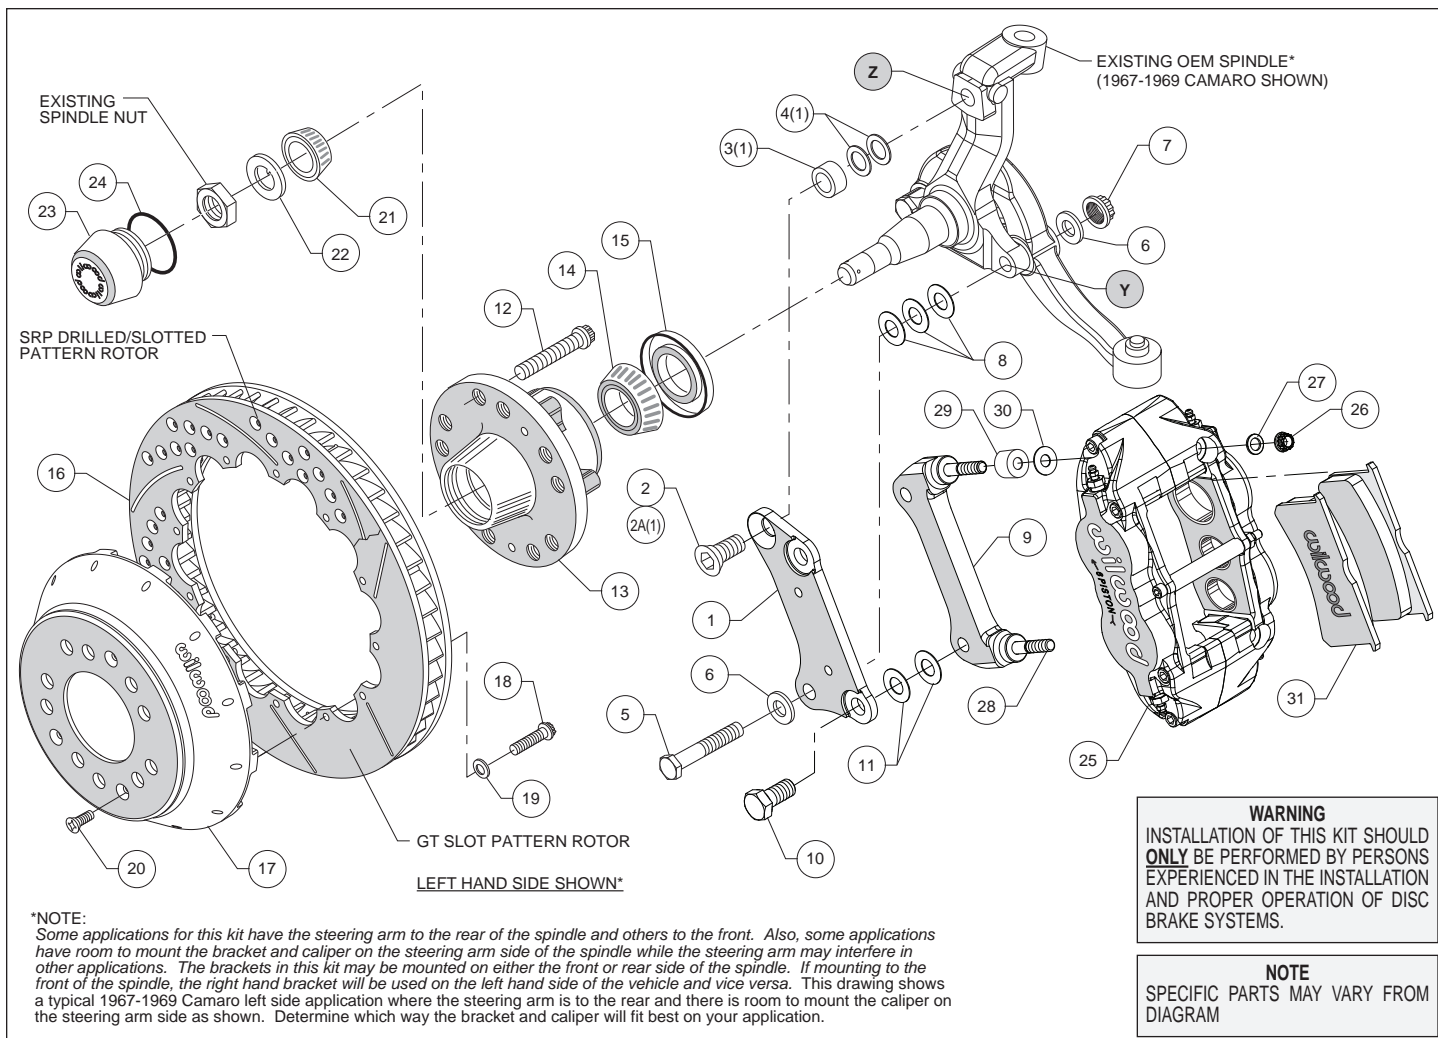
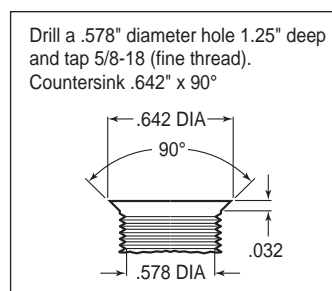
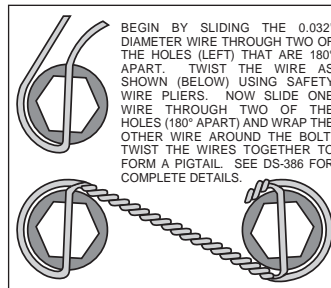

Figure 1. Typical Installation Configuration
Figure 3. Drill and Tap Detail
Figure 4. Safety Wire Diagram
Assembly Instructions (numbers in parenthesis refer to the parts list on the preceding page, and Figure 1):
•**NOTE:** Some applications for this kit have the steering arm to the rear of the spindle and others to the front. Also, some applications have room to mount the bracket and caliper on the steering arm side of the spindle while the steering arm may interfere in other applications. The brackets in this kit may be mounted on either the front or rear side of the spindle. If mounting to the front of the spindle, the right hand bracket will be used on the left hand side of the vehicle and vice versa. Figure 1 shows a typical 1967-1969 Camaro left side application where the steering arm is to the rear and there is room to mount the caliper on the steering arm side as shown. Determine which way the bracket and caliper will fit best on your application.
•**NOTE:** Some spindles in this year range may require the following modifications (reference Figure 1 and Figure 3): Top anchor pin hole (Z) must be drilled and tapped to the dimensions as outlined in Figure 3. The lower bolt hole (Y) in the spindle used to mount the new caliper bracket, and the mating steering arm hole, must be enlarged to .50" by drilling. It is recommended these modifications be performed by a qualified machinist.
•Install wheel studs (12) into the hub (13), Photo 1. Torque to 77 ft-lb. **NOTE:** There are two five lug patterns in the hub (5 x 4.50 and 5 x 4.75). Make sure of the correct hole pattern for the correct wheel application before installing studs into hub.
•Pack the large inner bearing cone (14) with high temperature disc brake bearing grease (available from your local auto parts store) and install into the backside of the hub (13).
•Install the grease seal (15) by pressing into the backside of the hub (13), Photo 2.
•Orient the rotor (16) and the hat (17) as shown in Figure 1 and Photo 3. Attach rotor to hat using bolts (18) and washers (19). Using an alternating sequence, apply red *Loctite*® 271 to the threads, and torque to 155 **in-lbs**. For an added measure of security, the bolts may be safety wired using standard 0.032 inch diameter stainless steel safety wire as shown in Figure 4. Please refer to Wilwood's data sheet DS-386 (available at www.wilwood.com/Pdf/DataSheets/ds386.pdf) for complete safety wire installation instructions.
•**Disc Brake Spindle Application Only:** Follow the instructions below, but instead use bolt (2A), spacer (3), and two .050" thick shims (4) in the upper bolt hole location, Figure 1.
•Orient the flat bracket (1) as shown in Figure 1 and Photo 4, and install using bottom bolt (5), washers (6), and nut (7), Figure 1. Initially place three .032" thick shims (8) between the bracket and spindle. Install the upper bolt (2 or 2A). Temporarily tighten bolts. **NOTE:** *The bracket must fit squarely against the mounting surfaces on the spindle.* Inspect for interference from casting irregularities, machining ridges, burrs, etc. Temporarily install the new hub, hat and rotor assembly. Check that the bracket is aligned parallel to the rotor, Photo 5. If not, adjust by adding or subtracting shims (8) on the lower bolt between the bracket and spindle, Figure 1. Once the bracket alignment is correct, remove the upper bolt (2 or 2A), apply red *Loctite*[®] 271 to the bolt threads, and torque to 120 ft-lb. Torque the lower lock nut to 65 ft-lb.
•The radial mount caliper bracket (9) should initially be installed with clean, dry threads on the mounting bolts. Orient the bracket as shown in Figure 1 and Photo 6, and install using bolts (10). Initially place two .029 thick shims (11) on each bolt between the two brackets, Figure 1. Temporarily tighten the mounting bolts. Later, after the caliper alignment has been checked, the mount bolts will be secured using red *Loctite*[®] 271.
•Pack the small outer bearing cone (21) with high temperature disc brake bearing grease and install into hub (13). Final install the hub assembly onto the spindle. Secure using spindle washer (22) and OEM spindle nut, Photo 7. Adjust bearings per OEM specifications. Install saved OEM nut lock (if any) and a new cotter pin (not included).
•Screw dust cap (23) into hub (13). Friction created by the o-ring (24) on the dust cap keeps it from unscrewing. **NOTE:** *The O.D. of the existing OEM spindle washer may be larger than the I.D. of the dust cap not allowing it to seat against the hub face. Therefore, use the spindle washer (22) supplied with the kit instead of the OEM washer.*
•Final install the rotor (16 and 17) assembly onto the hub (13), taking care to align the small countersunk holes in the hat with the small threaded holes in the hub. **NOTE:** *The hat must fit flush against the hub face or excessive rotor run out may result.* Install three flat head screws (20) through the small holes in the hat (17), Photo 8, and torque to 85 in-lb.
•**NOTE:** *This kit contains distinct right and left hand calipers that must be mounted in a specific direction, as described below.* Lubricate the caliper mounting studs (28) with lightweight oil. Initially place spacer (29) and one .035" thick shim (30) on each stud between the caliper and the bracket, as shown in Figure 1 and Photo 9. Mount the caliper (25) onto the bracket (9) using lock nuts (26) and washers (27), Figure 1. Ensure that the caliper is mounted so the largest pistons are at the rotor exit end of the caliper, in relation to the direction of rotor rotation. Temporarily tighten the lock nuts. The rotor should be centered in the caliper, Photo 10. If not, adjust by adding or subtracting shims (11) between the flat bracket (1) and the caliper bracket (9). Always use the same